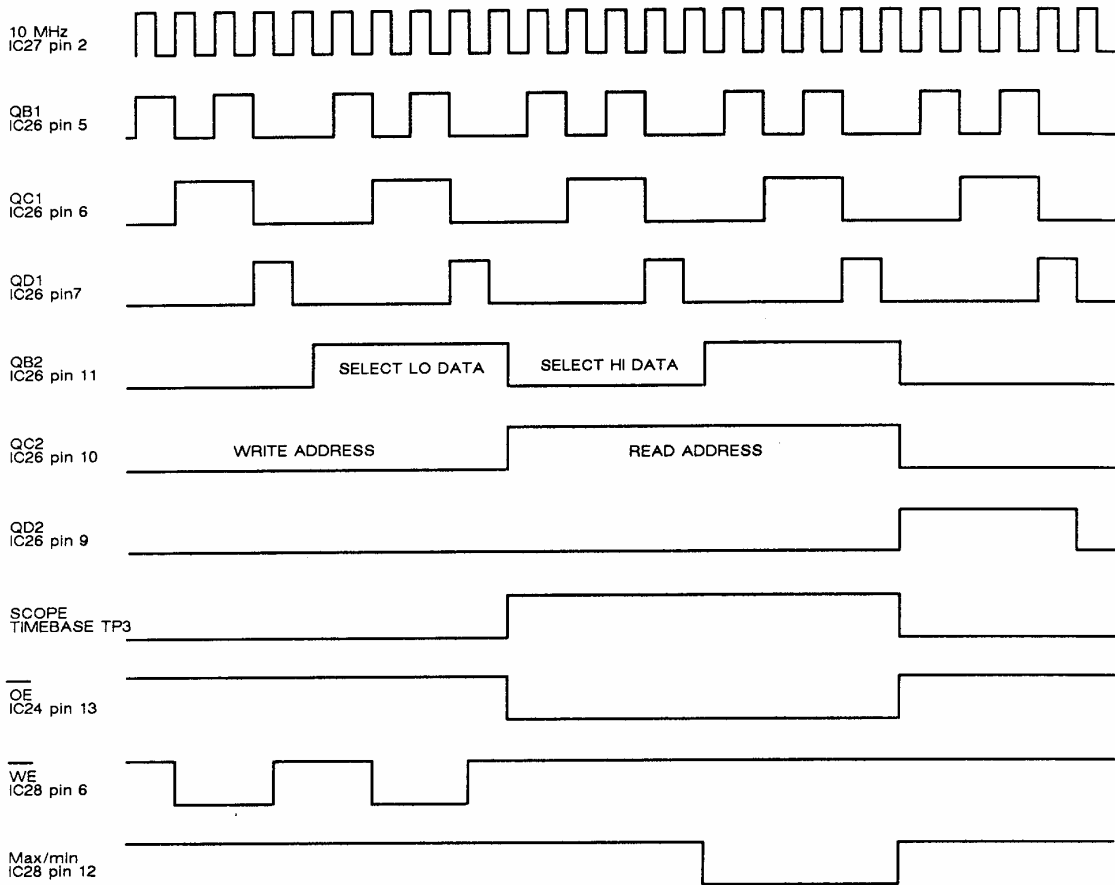

Fig. 5-3-1 Timing generator timing waveform diagram for board AB2/2
- (13) Check the operation of the timing generator by reference to the timing diagram shown in Fig. 5-3-1.